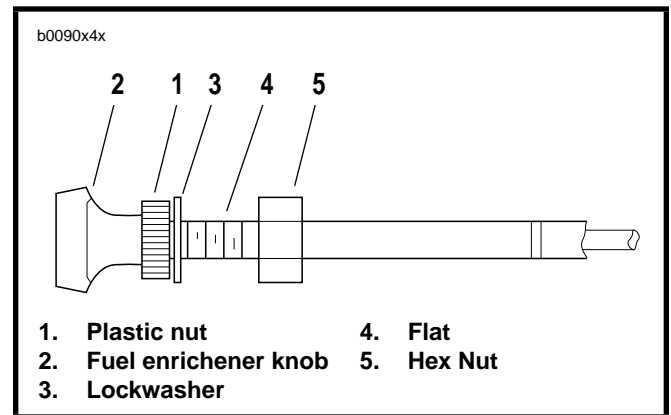

Figure 57. Enrichener Knob
See Figure 57. Verify that fuel enrichener knob (2) opens with relative ease, remains fully open without holding and closes without binding. If adjustment is needed, perform the following:
1. Loosen hex nut (5) at inboard side of mounting bracket. Remove cable assembly from mounting bracket slot.
2. Hold cable assembly at flats (4). Turn plastic nut (1) counterclockwise until fuel enrichener knob (2) slides inward without restriction.
3. Turn plastic nut (1) clockwise against lockwasher (3) until fuel enrichener knob (2) remains fully open without holding and closes with relative ease.
4. Position cable assembly in mounting bracket slot. Tighten hex nut (5) against mounting bracket.